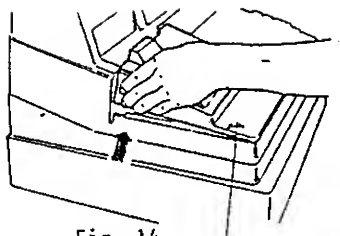

Fig. 14
2. Remove the Ribbon Cover. Press the side inward and the hook will unlock (Fig.14).
2. Remove the Ribbon Cover (Fig. 14).